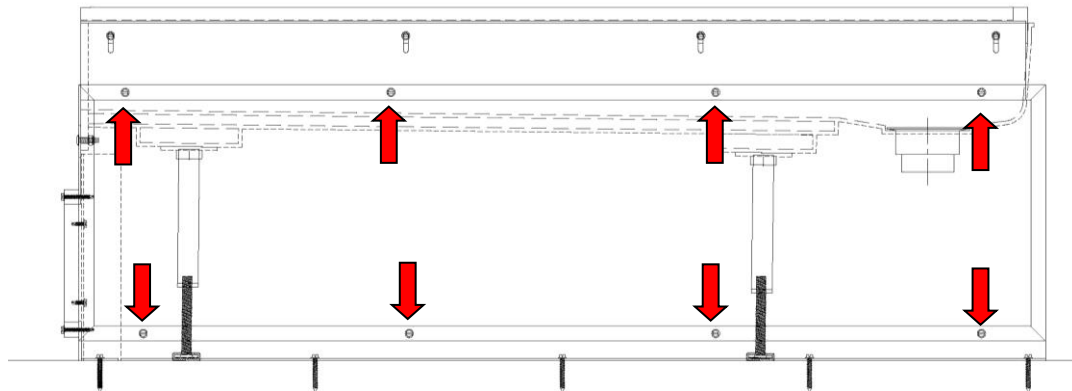

Fig. 21
- Secure 13" Tall Front FRP Trim Panel to 4" Trim Plate and aluminum angle supports using the provided 10 x 1 1/2" TEK hex washer head sheet metal screw(s). See Fig. 21.